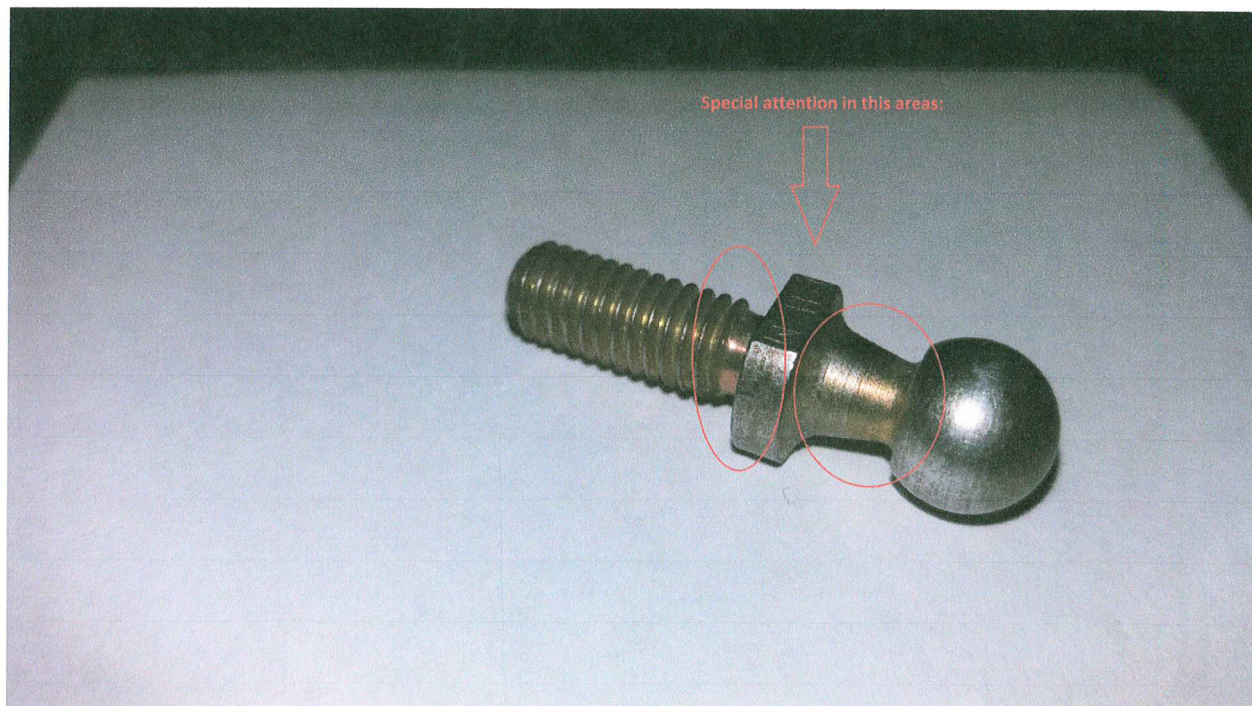

Fig 3
3. Unmount all ball joints from the pieces in which is screwed in and check the ball using a x10 magnifier for cracks, ruptures, corrosion and general state giving special attention under ball and where the screw thread ends. (**see fig.3**)